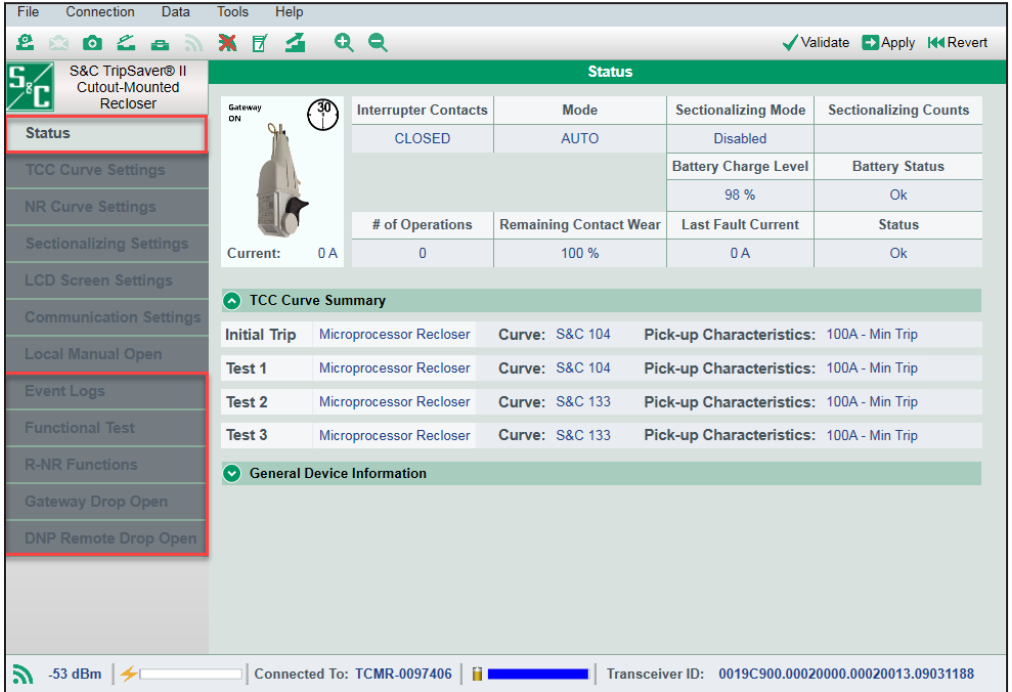

Figure 12. The Status screen in Connected mode.
STEP 4. Confirm the TripSaver II recloser is connected by clicking on the **Status** menu item. The *Status* screen will populate with data from the connected recloser. When in **Connected** mode, the service center software will display a signal strength icon at the bottom left of the screen. The signal strength will also be displayed numerically. See Figure 12.